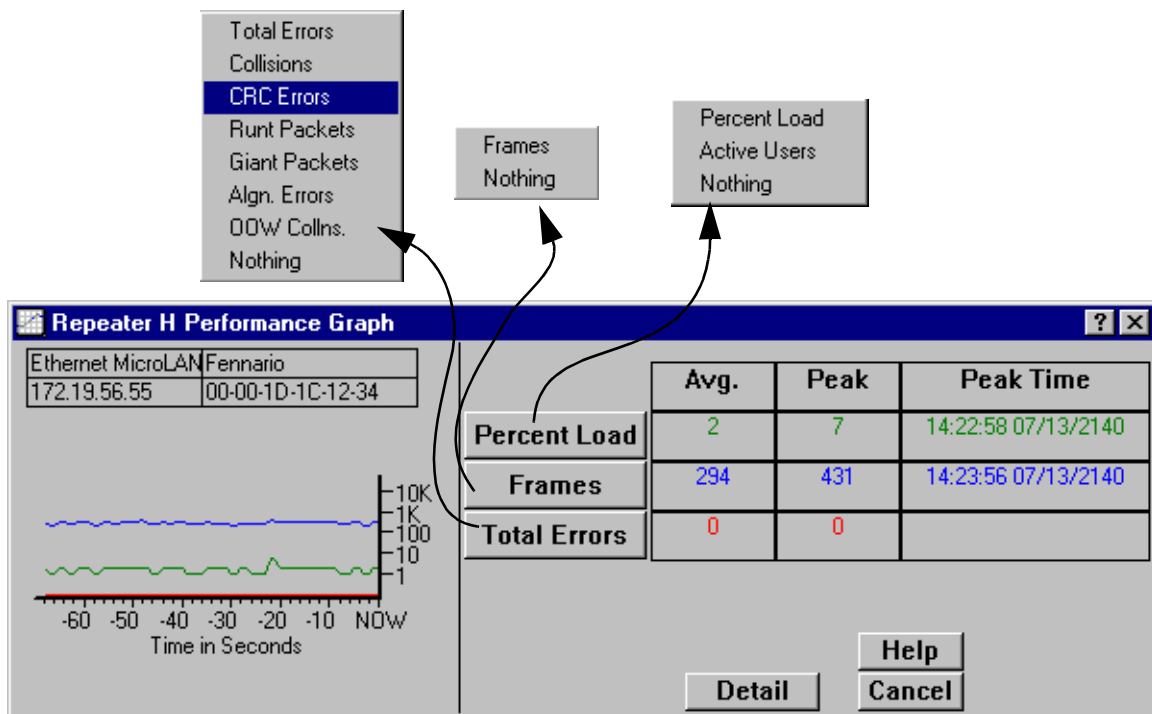

Figure 5-4. The Repeater Performance Graph Window
3. Select **Performance Graph**. The Performance Graph window, Figure 5-4, will appear.
The Board and Port Performance Graph windows are similar to the Repeater Performance Graph window displayed in Figure 5-4, except that they display statistics applicable to the board or port level.